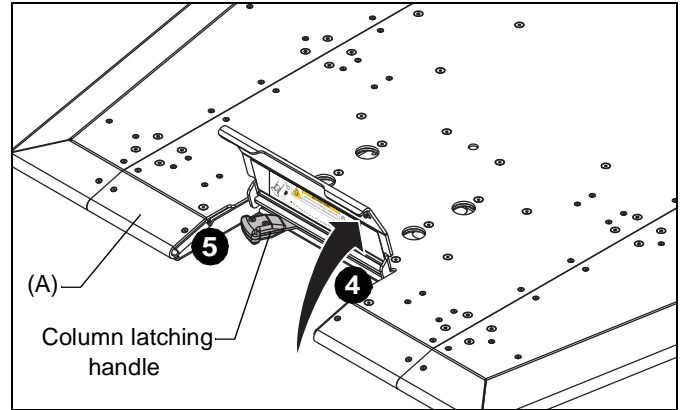

Figure 3
4. Place base on floor (top side up), and lift cover at center back of base (A). (See Figure 3)
5. Ensure that column latching handle is at far left of opening. (See Figure 3)